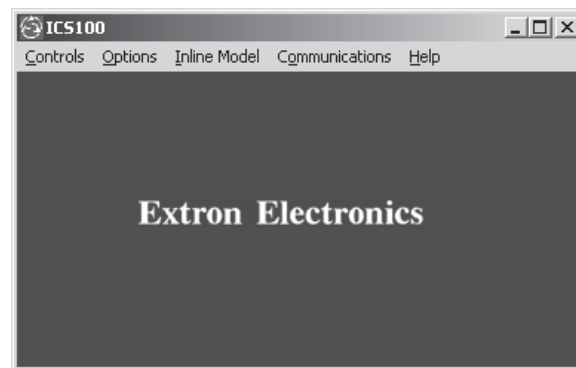

Figure 4-1 — ICS100 interface screen
1. From the ICS100 Interface screen (figure 4-1) select Input Volume from the Controls menu. The Set Input Volume window opens.